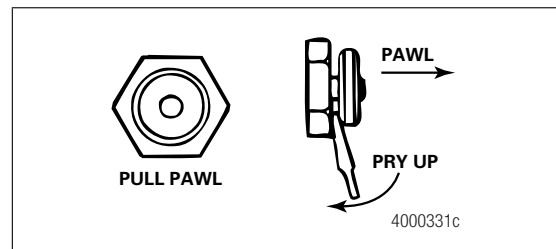

Figure 3.1
1. Disengage the pull pawl. Use a screwdriver or equivalent tool to pry the pull pawl at least 1/32-inch (0.8 mm) to disengage the teeth from the actuator. Figure 3.1.